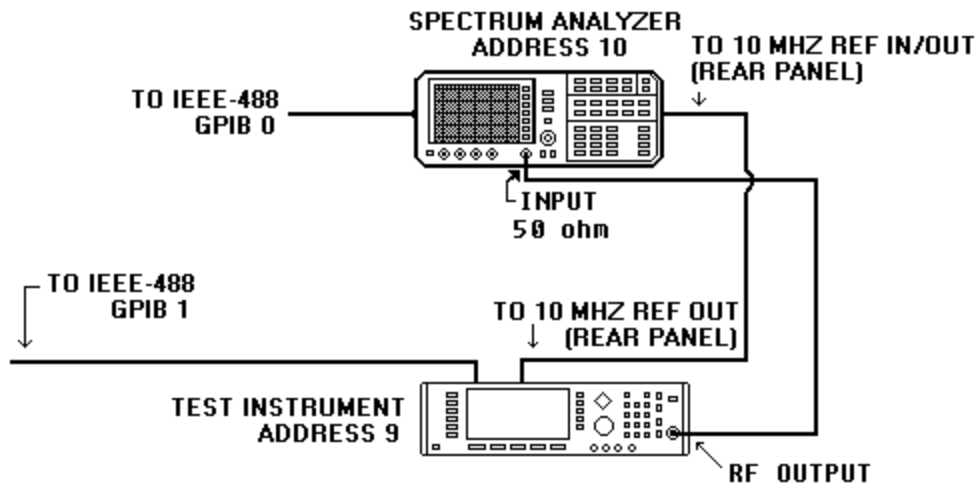

Figure 3. Spectral purity hookup.
(1) Connect equipment as shown in figure 3.